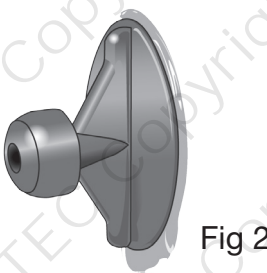

Fig 2
4. Let the glue gun warm up for a few minutes then apply the hot glue to the pad and place in the centre of the dent (see Fig 2).
3. Apply the hot glue to the pad and place in the centre of the dent (see Fig 2).